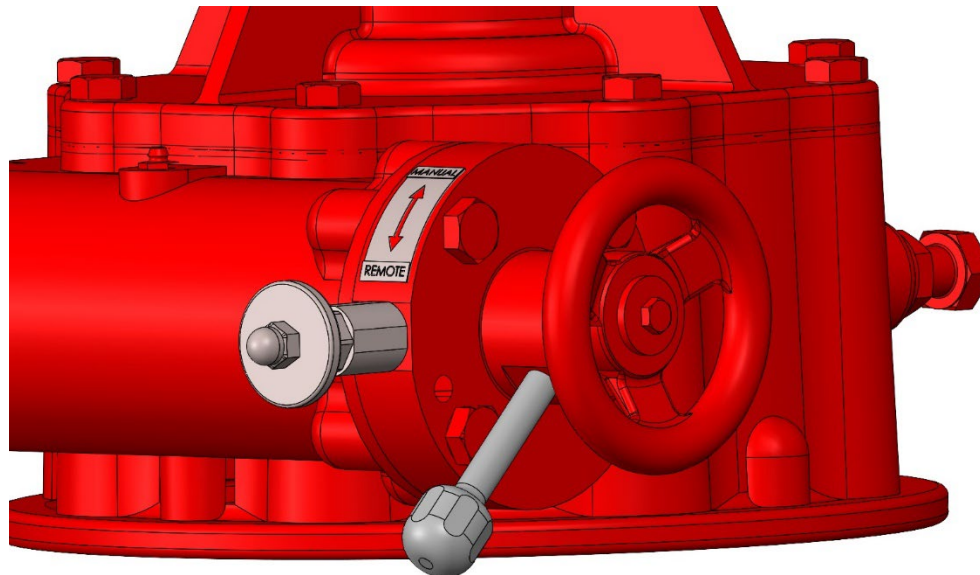

Figure 3
6. Install the declutch lever into tapped hole on collar. Do not remove the set screw and attempt to use the second hole. The declutch lever when in the remote (disengaged) position should be below the declutch pin which is the locking pin for the declutch lever (See Figure 3). The declutch lever is taped to the handwheel for shipping purposes.